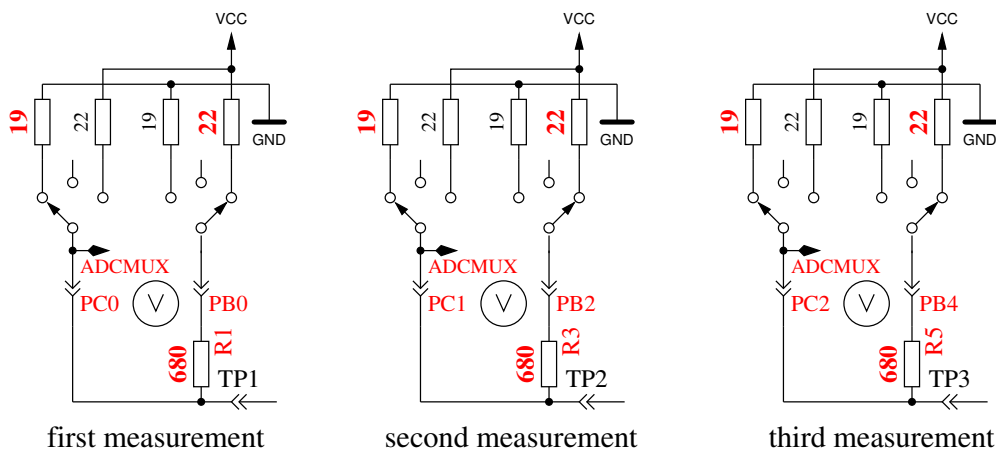

Figure 5.29: Measurement of internal resistance of Port C switched to GND
5. **This step tests the capability of GND (-) connected 470kΩ resistors (H) to pull the test pins to GND.** Row 1 shows the text “RH-”. Row 2 should display zero for all three pins.
6. **This step tests the capability of VCC (+) connected 470kΩ resistors (H) to pull the test pins to VCC (+).** Row 1 shows the text “RH+”. The best value for this three measurements is 5001. Great differences from the best value for test 5 and 6 are errors such as isolation problem, flux material or damaged port.
7. **Measuring of internal resistance of pin output switched to the GND signal.** The text in the 1st LCD row is “Ri.Lo = (mV)”. In the second row of the LCD three voltages were displayed. The internal resistance of the port C outputs switched to GND (-) are measured with the current of to VCC (+) switched 680Ω resistors, see Figure 5.29. Only the three pins of the ADC port are measured, the resistor port B (PB0, PB2 and PB4) can not be measured without hardware modification. It is assumed that the port resistance of the different ports are nearly identical. To get the resistor values, you must divide the displayed mV values by about 7 (see test 8).